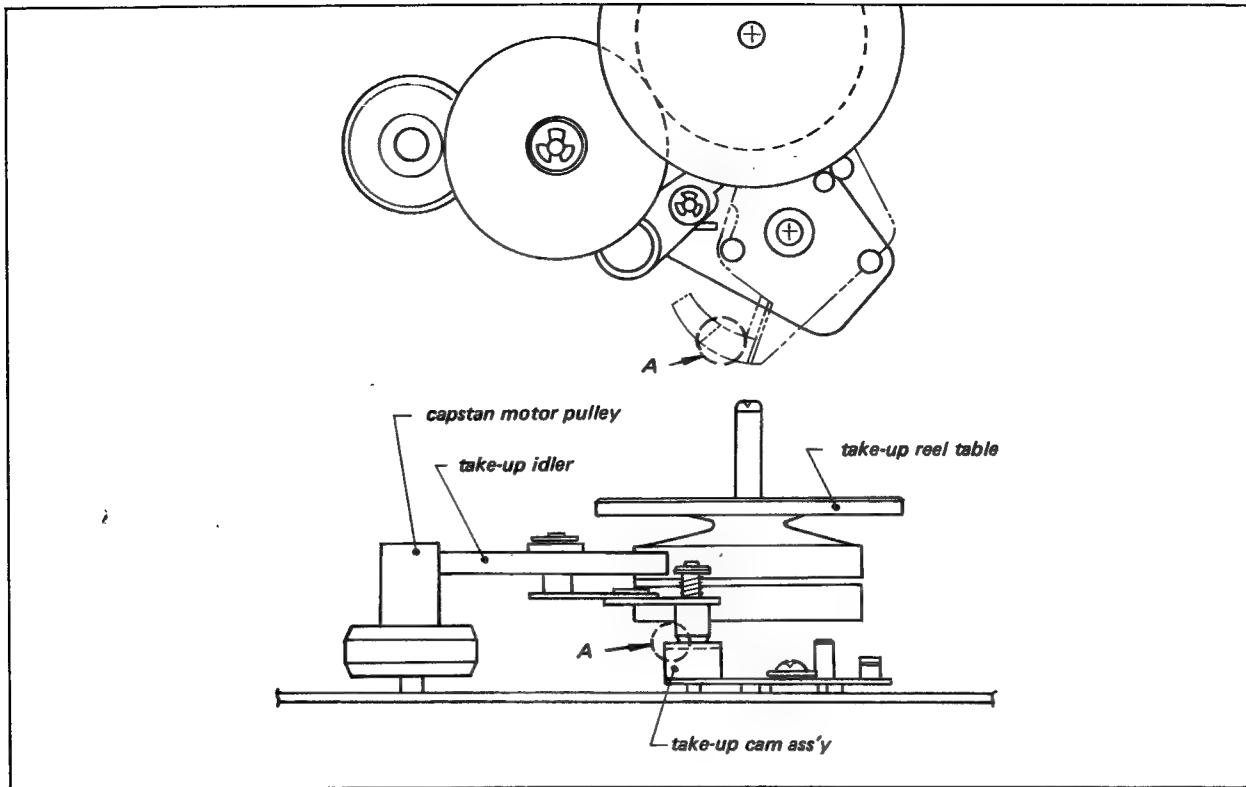

Fig. 4-12. Take-up idler height
2. If this condition does not exist, place the Function Lever in the FORWARD position. Bend Finger A with a pair of pliers as shown in Fig. 4-12. to obtain the correct Take-up Idler height.